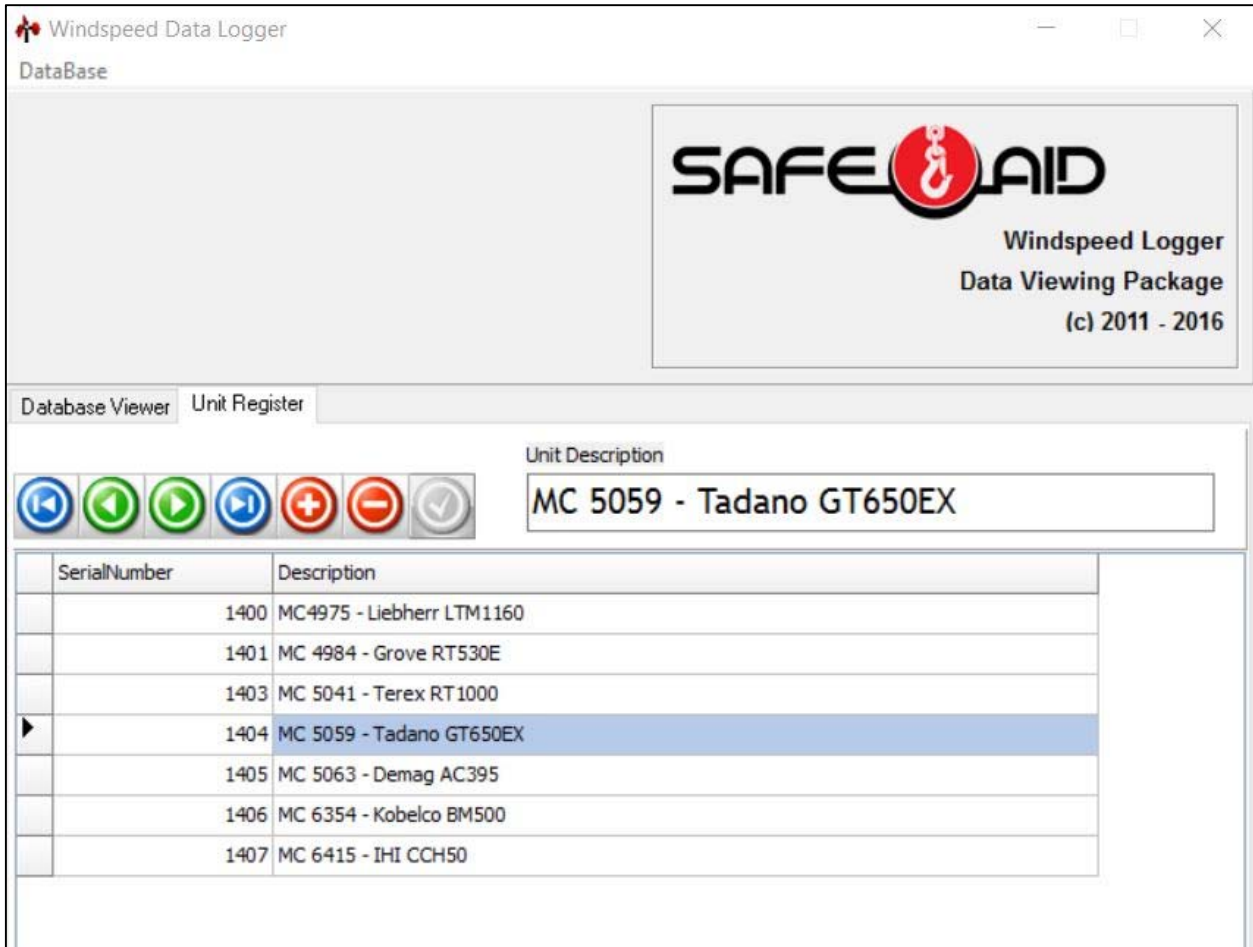

Figure 38
- Once completed the PC should have a list of all the TS350 serial numbers and descriptions (**Figure 38**).